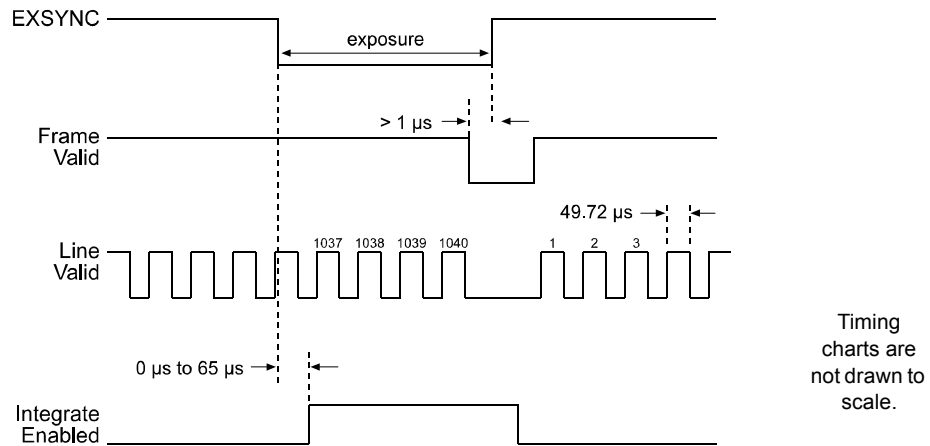

Figure 3-4: ExSync, Level-controlled Mode - Exposure Start with Frame Valid High
- In case one (see Figure 3-4), the falling edge of ExSync occurs while the camera is transmitting a previously captured frame, that is, when frame valid is high. This will occur when the frame rate is high.
If the ExSync signal falls while frame valid is high as shown in Figure 3-4:
As shown in Figure 3-4, FVAL **must** be low for at least 1 μs before the ExSync signal rises.